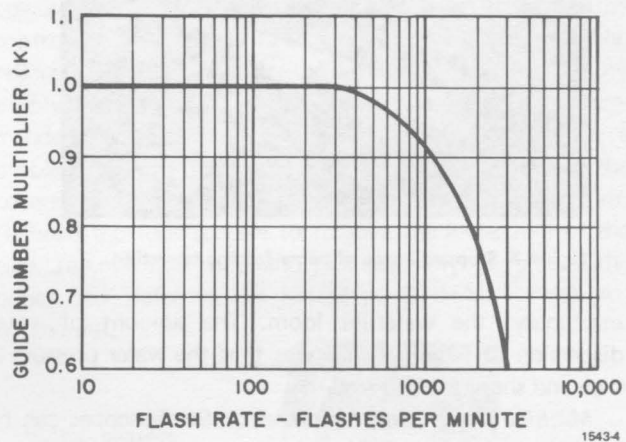

Figure 6. Guide-number correction for repetitive flashing.
- Obtain the guide-number multiplier from Figure 6 and multiply it by the guide number.